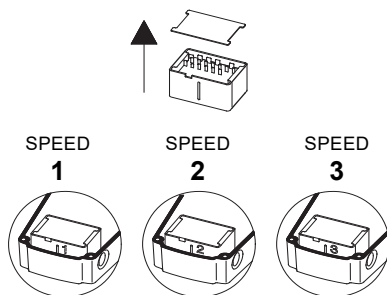

Fig. 14 Speed switch module
- Pull out the speed switch module and re-insert it so that the desired speed is visible through the window in the terminal box (see fig. 14).